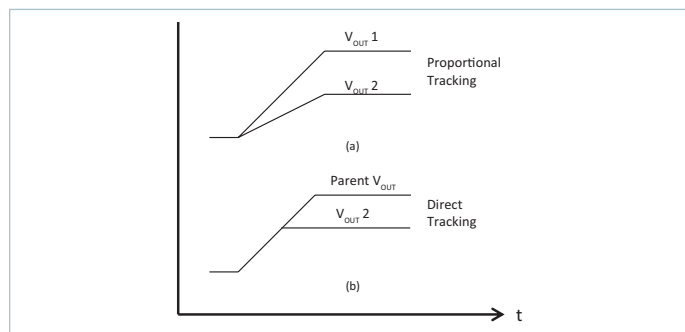

Figure 31 — PI3741-0x tracking methods
The PI3741-0x allows the tracking of multiple like regulators. Two methods of tracking can be chosen: proportional or direct tracking. Proportional tracking will force all connected regulators to startup and reach regulation at the same time (see Figure 31 (a)). To implement proportional tracking, simply connect all devices TRK pins together.
All connected regulators' soft-start slopes will track with this method. Direct tracking timing is demonstrated in Figure 31 (b). All tracking regulators should have their Enable (EN) pins connected together for proper operation.